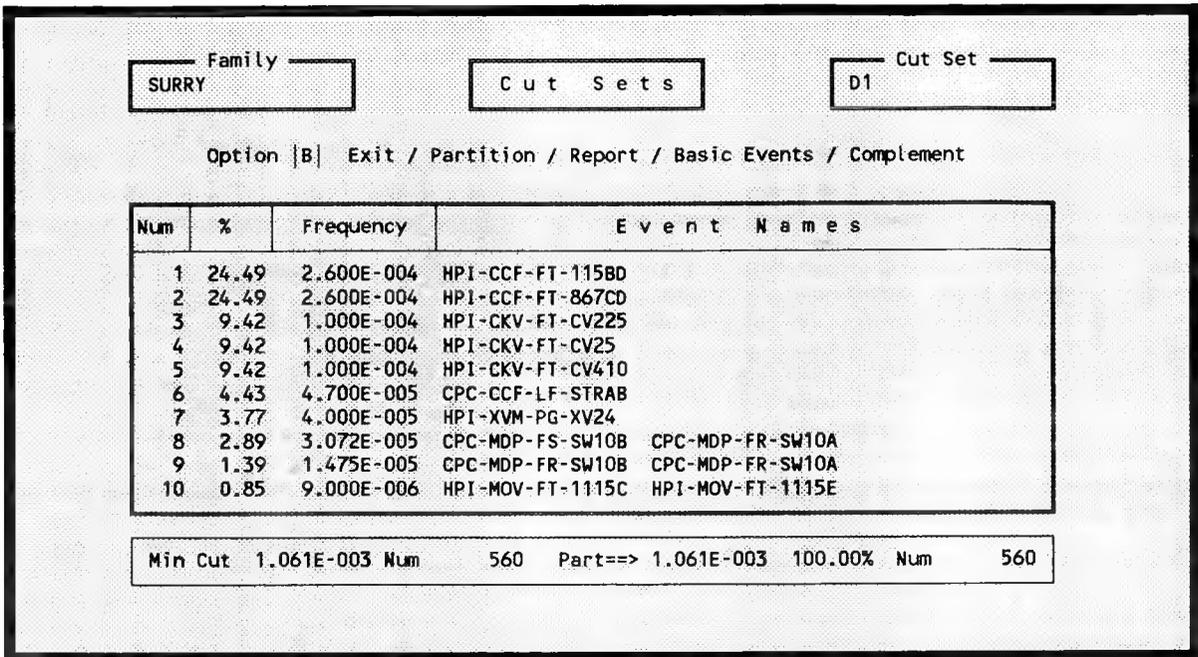
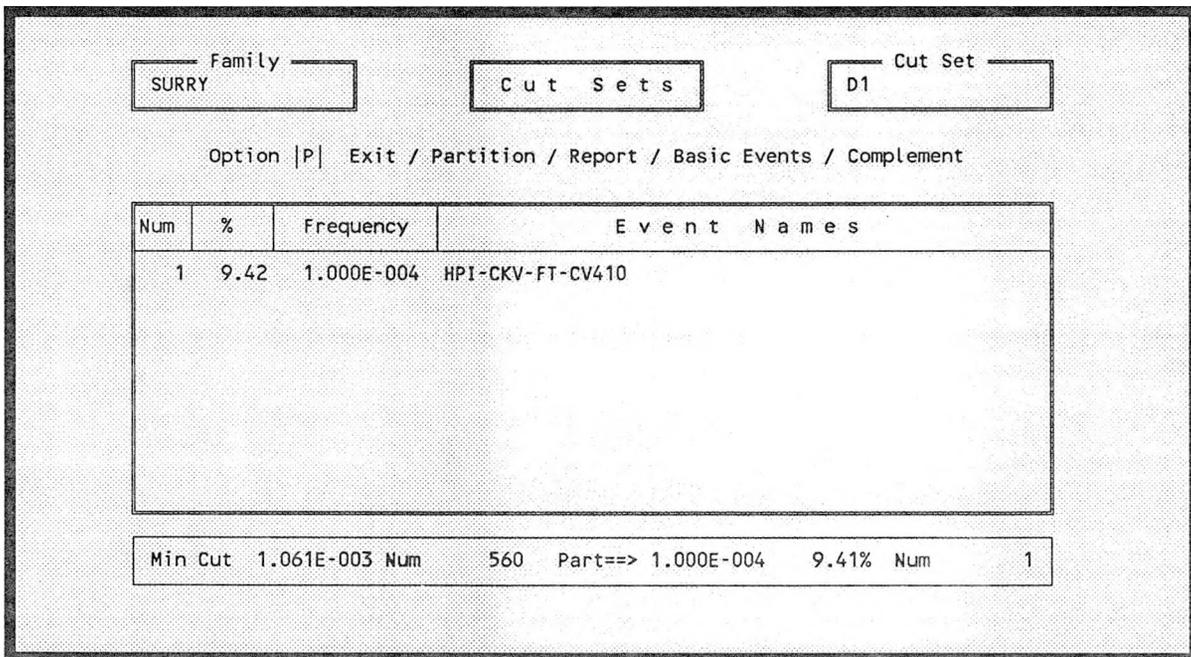
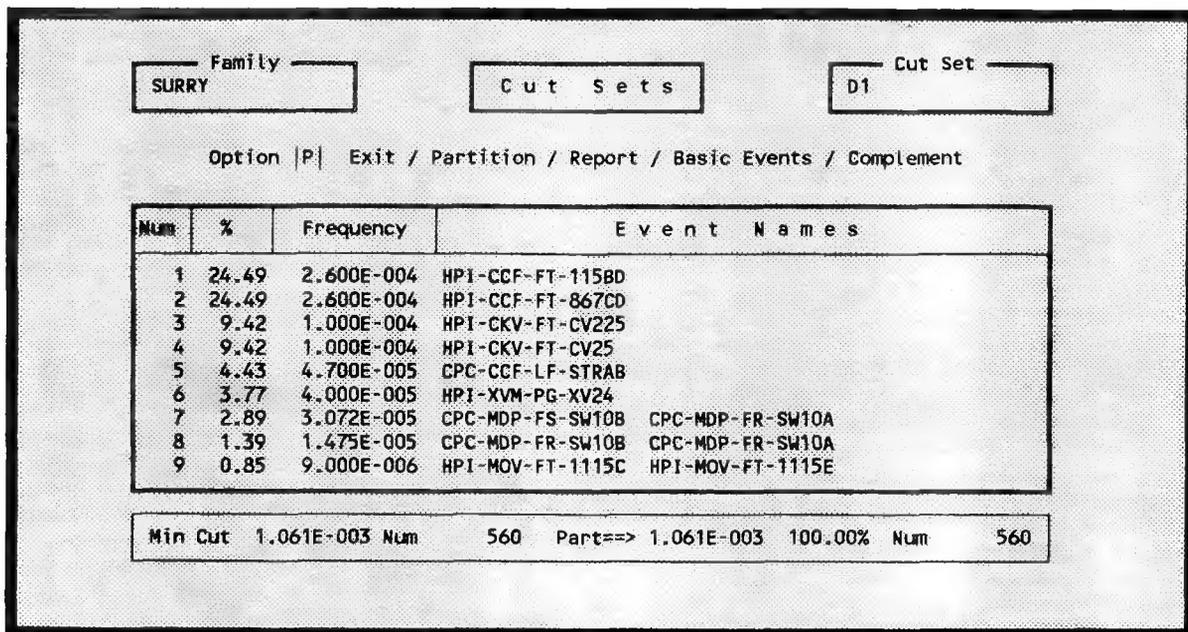

Figure 82. Cut sets display.
Figure 84. Using Include to partition a system.
Figure 85. Using EXclude to partition a system.
This option displays the system cut sets (Figure 82), their percent of contribution to the system, frequency, and the event names that make up the cut sets. The system minimum upper bound, the number of cut sets that make up the system, the current partition upper bound, the percentage that the partition contributes to the system, and the number of cut sets in the partition are displayed at the bottom of the screen.
Include: To establish a partition via this option, type  in the option field, then fill in the entry fields that are to be used to qualify the events that may be used in the new partition and press <Enter>. The application proceeds to qualify the events and when complete will update the Number of Qualified Events field that appears at the top of the screen. In this case, qualified events are those events which contain the included attributes. Returning to the Cut Sets screen via the Exit option, you will see that the system cut set list contains only those cut sets that are made up of qualified events. Figure 84 was the result of specifying the event name "HPI-CKV-FT-CV410" for the "Include" option. If the system cut sets do not contain any of the qualified events, then the message **No cutsets qualify** is displayed at the bottom of the screen.
EXclude: To establish a partition via this option, type <X> in the option field, then fill in the entry fields on the screen that are to be used to remove events from the list of qualified events. The application proceeds to remove the events. When complete, the Number of Qualified Events field that appears at the top of the screen will be updated accordingly. Returning to the Cut Sets screen via the Exit option you will see that the system cut set list contains only those cut sets that are made up of qualified events. Figure 85 was the result of specifying the event name "HPI-CKV-FT-CV410" for the "EXclude" option. If the system cut sets do not contain any of the qualified events, then the message **No cutsets qualify** is displayed at the bottom of the screen.
Reset: This option sets all family events to qualified. This, of course, removes all partitioning from the current system cut sets. To activate this option, type <R> in the option field and press <Enter>. (Assume the partition shown in Figure 84). The original cut set list is the result, as shown in Figure 82.
5.4.2.5 Complement. The Complement option operates on the current system partition. Its function is to set all currently qualified cut sets to unqualified. This allows you to split a system into two partitions and then switch between the two partitions to view the results. To invoke this option, type <C> in the option field, and press <Enter>. (Assume the partition shown in Figure 84). The resulting display is shown in Figure 85.